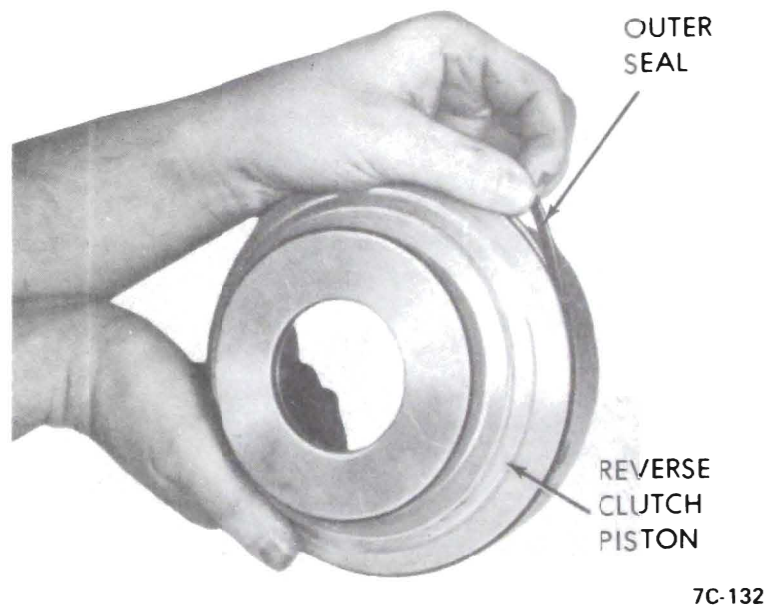

Figure 7C-132
2. Remove intermediate clutch accumulator piston cover and "O" ring seal from case. See Figure 7C-138.